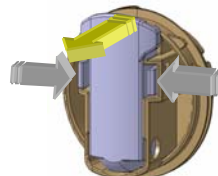

Fig. 3
- simultaneously remove the top part of the lever as indicated by the yellow arrow in fig. 3.